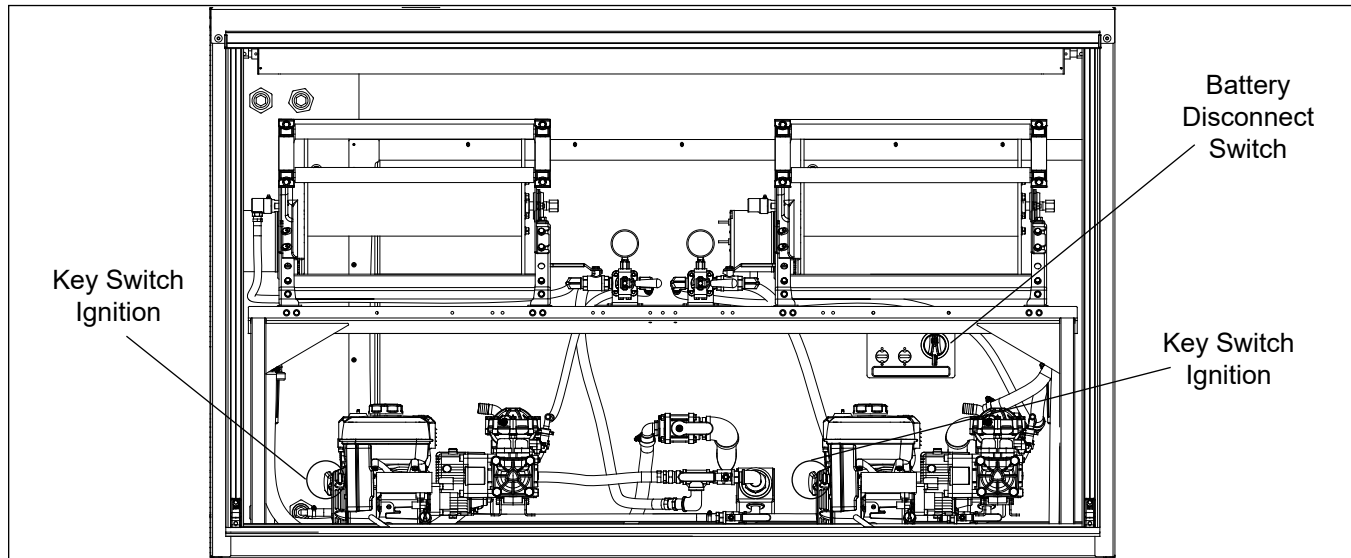

Figure 1 — Battery Disconnect Switch
2. Move the battery disconnect switch (refer to Figure 1) to the Off position whenever the spray unit is not in use.
2. Turn both Vanguard engines off using the key switches (refer to Figure 1).
3. Move the battery disconnect switch (refer to Figure 1) to the Off position.